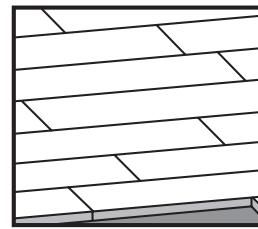
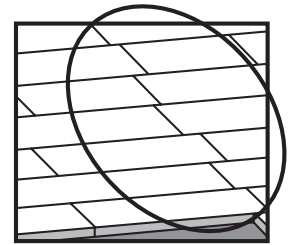

FIGURE 1.1 (CORRECT)
FIGURE 1.2 (INCORRECT)
STEP 5: Install the balance of the floor with a hardwood flooring nailer, always keeping in mind to space the strips / planks so as to avoid unsightly clusters of end joints (see figure 1.1 and figure 1.2). If possible, a minimum distance of 150 mm (6") should be left between the planks and adjacent rows to avoid aligning the joints.